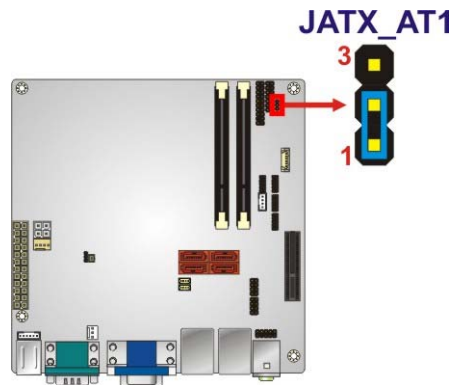

Figure 4-9: AT/ATX Mode Select Jumper Location
- Jumper Location:** See **Figure 4-9**
The location of the AT/ATX mode select jumper is shown in **Figure 4-9** below.